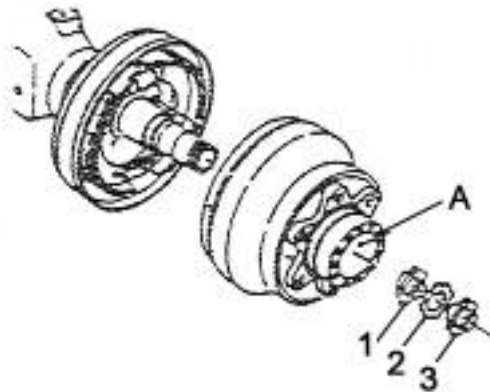

Figure 2-4 Add grease
- (1) Add 100ml grease into the wheel hub, and then install it on the shaft. (Figure 2-4)
- (2) Tighten the adjusting nut with a torque of about 9.8N·m and then turn it 1/2 turn.